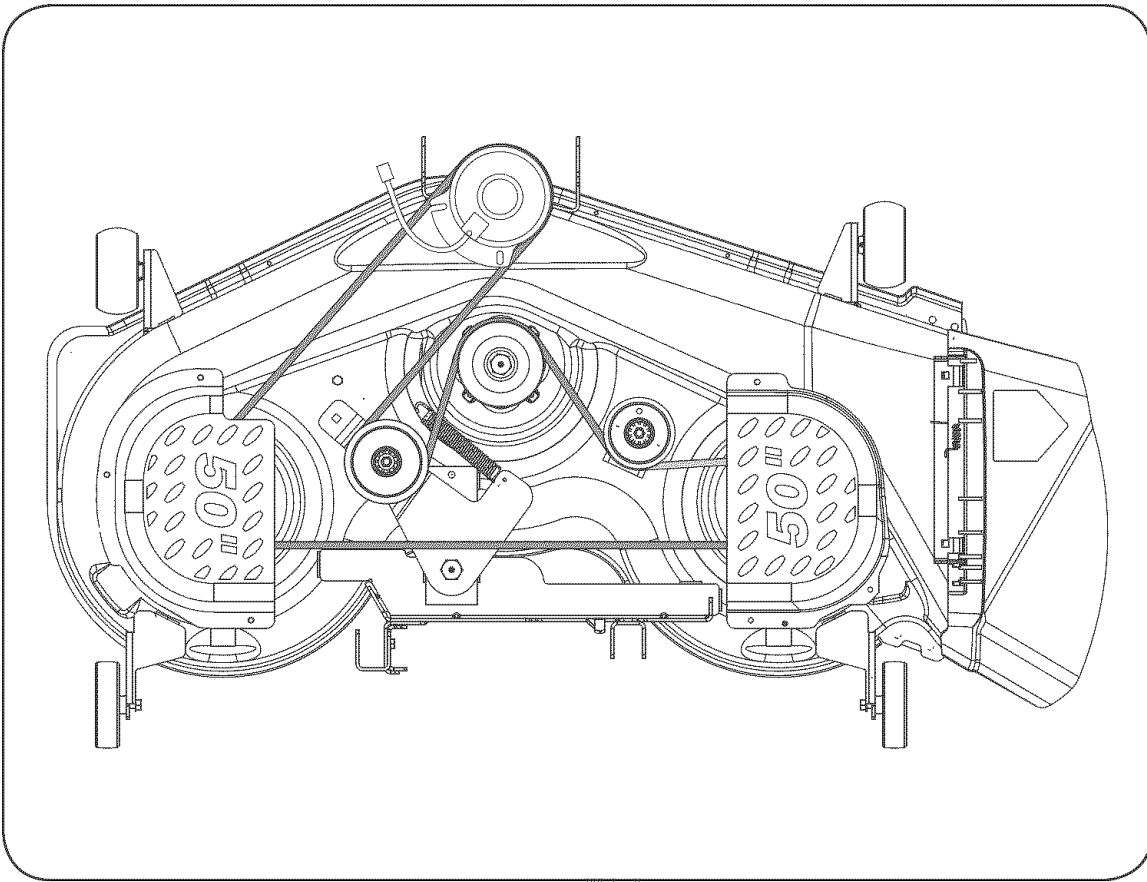

Figure 19
5. Route the new belts (deck belt first) as shown in Figure 19.